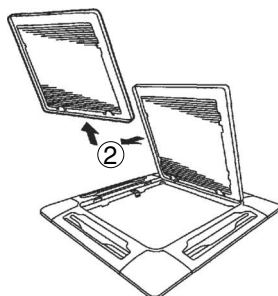

Fig. 9-5
- c) With the air-intake grille opened, remove the grille hinge from the ceiling panel by sliding it in the direction shown by the arrow ②. (Fig. 9-5)